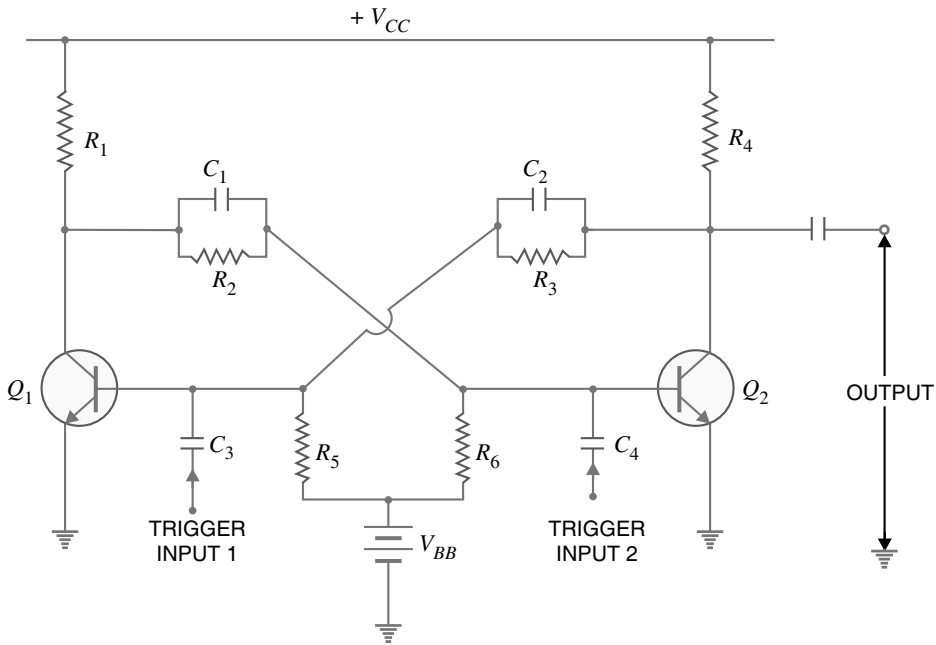

Fig. 16.22
**Circuit details.** Fig. 16.22 shows the circuit of a typical transistor bistable multivibrator. It consists of two identical *CE* amplifier stages with output of one fed to the input of the other. The feedback is coupled through resistors ( $R_2, R_3$ ) shunted by capacitors  $C_1$  and  $C_2$ . The main purpose of capacitors  $C_1$  and  $C_2$  is to improve the switching characteristics of the circuit by passing the high frequency components of the square wave. This allows fast rise and fall times and hence distortionless square wave output. The output can be taken across either transistor.